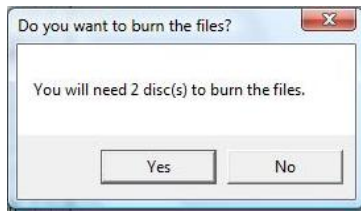

Figure 5-5
2. For Mode 2, select **Yes**. A dialog box indicating the number of required discs for burning (Figure 5-5) appears.